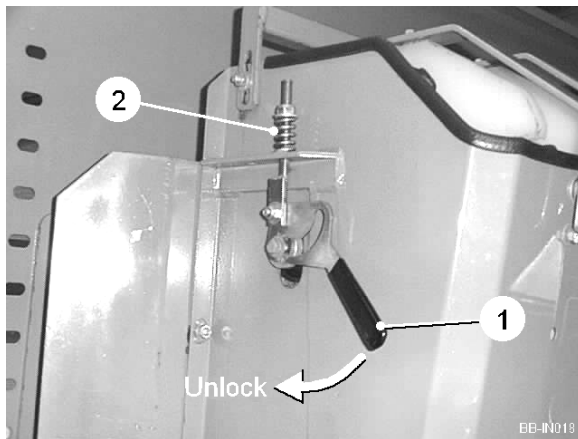

Fig 11
The cup belts pick up the seed from the feeding pocket and transfer them to the ground. Rapid locking brackets (item 1, figure 11) fitted to each of the tunnels keep the cup belts tensioned and also allow rapid maintenance of the cup belts. To slacken the cup belts, push the handles fully down until hanging loose. Each belt is tensioned by two spring adjusters (item 2, figure 11) which when tensioned correctly avoid slipping of the belt around the top and bottom rollers. Always adjust both sides evenly.